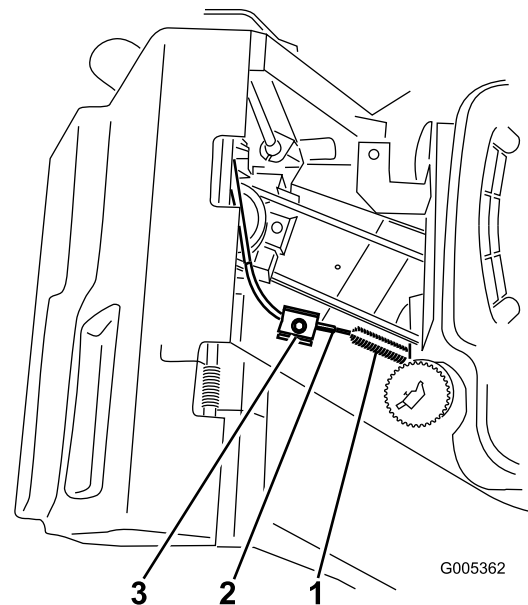

Figure 32
5. Loosen the cable clamp screw until the brake cable conduit slides (Figure 32).